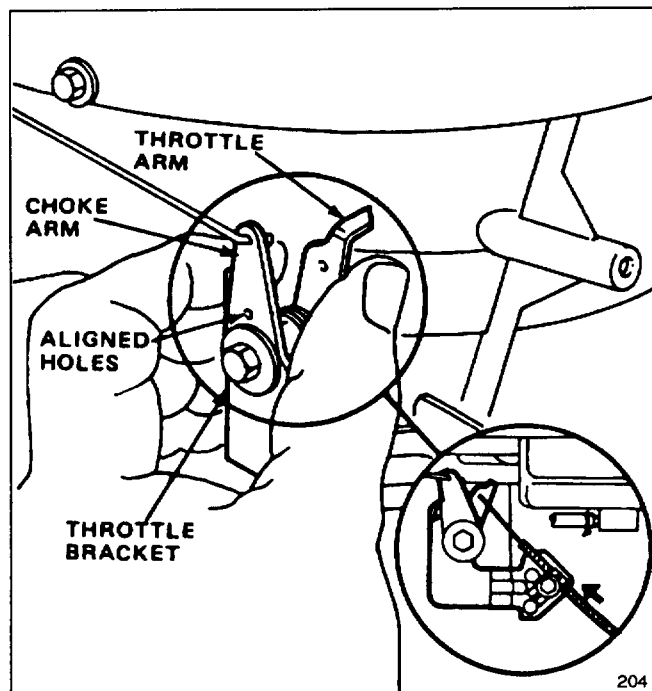

Figure 18
4. Loosen cable clamp screw until throttle cable slides (Fig. 18). Align holes in choke arm and throttle bracket. A small dia. pin may be inserted into aligned holes to hold adjustment. Push throttle cable until throttle arm makes contact with choke arm. Tighten cable clamp screw. Remove pin if used.